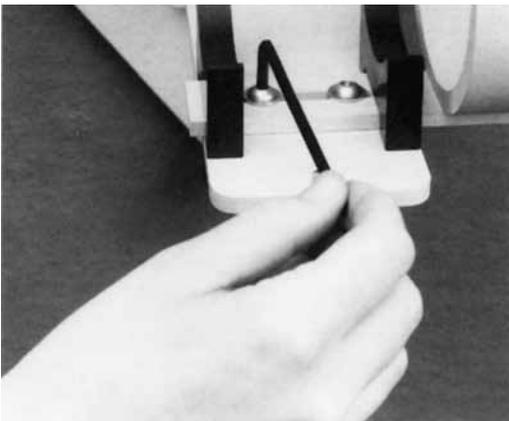

Figure 19
1. Remove the two button head screws and washers from the housing platform (Figure 19). Slide the platform off of the fixator base. Turn it around and slide it back on the base facing the opposite direction. Secure in place with the washers and screws.